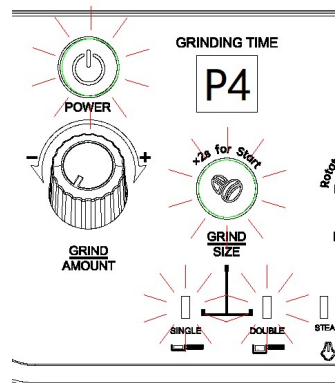

Figure 9
2. To protect the bean grinding system, when the continuous use of the bean grinding function accumulatively exceeds 3 minutes, the system will limit the normal use of the bean grinding function for 6 minutes. At this time, the display panel will display the P4 alarm code (Figure 9). After the end of the 6 minutes of restricted use, the limit will be automatically lifted, and the bean grinding system will return to normal. At this time, the display panel will no longer display the P4 alarm code.